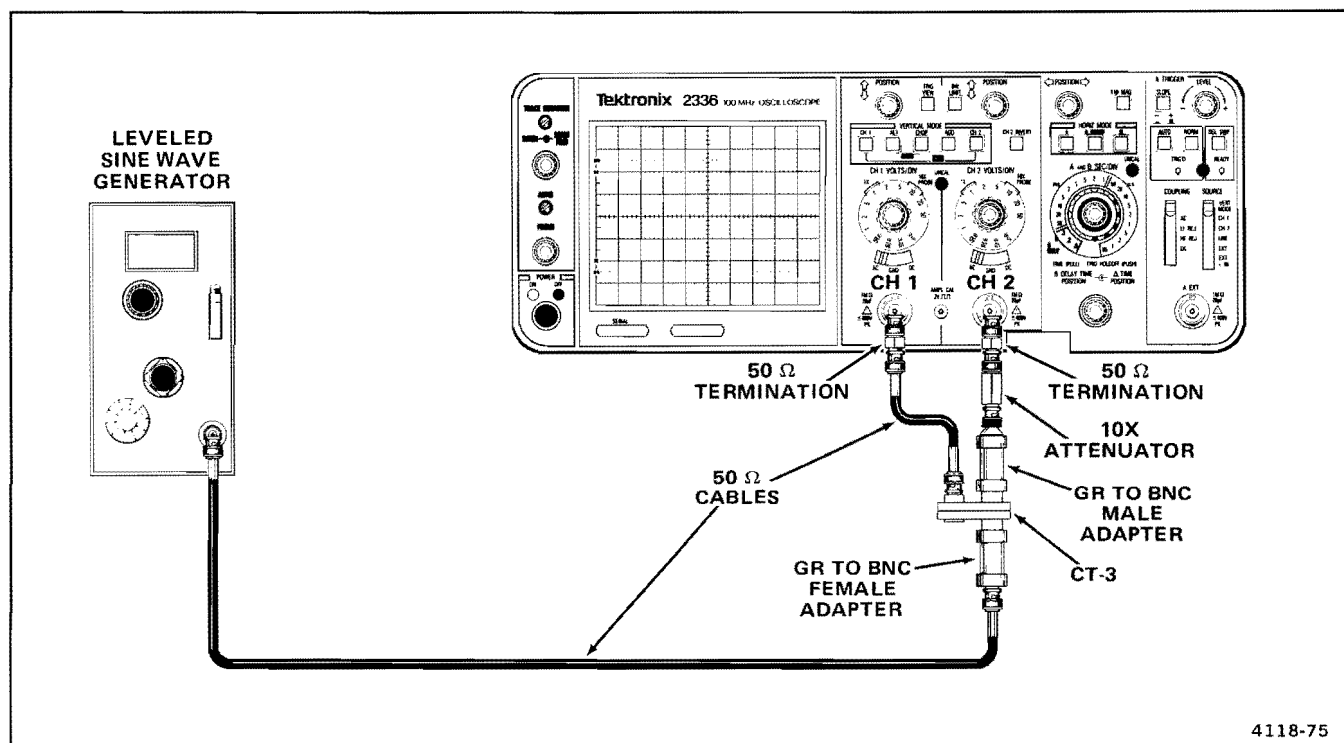

Figure 4-1. Test setup for external trigger and jitter checks.
k. Connect the test setup as shown in Figure 4-1.
u. Reconnect the test setup as shown in Figure 4-1.